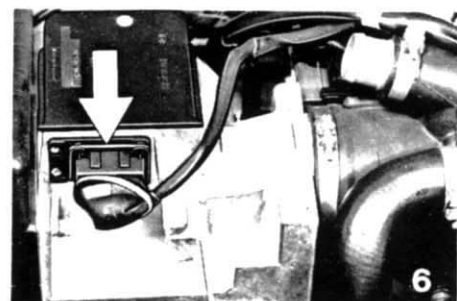

Figure 6
2. Push down locking spring on air flow meter wiring plug and disconnect plug (arrow in Figure 6).
7. Reconnect wiring plug. Make sure spring lock is engaged. Figure 6 shows wiring plug connected (engine removed).